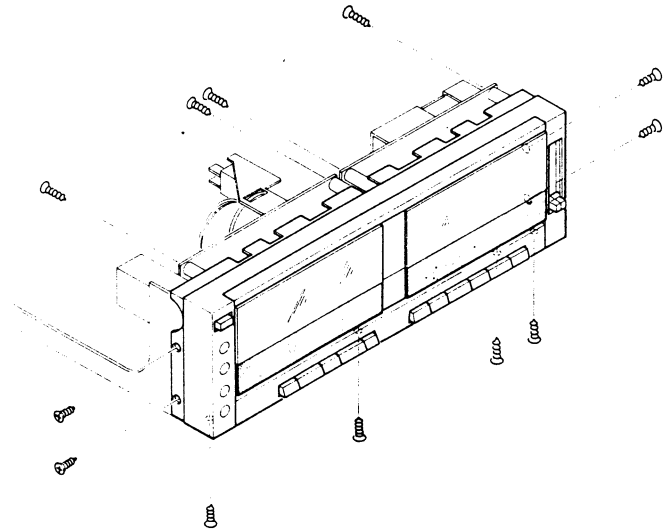

Fig. 1
- 1) Remove 12 screws. (See figure 1)